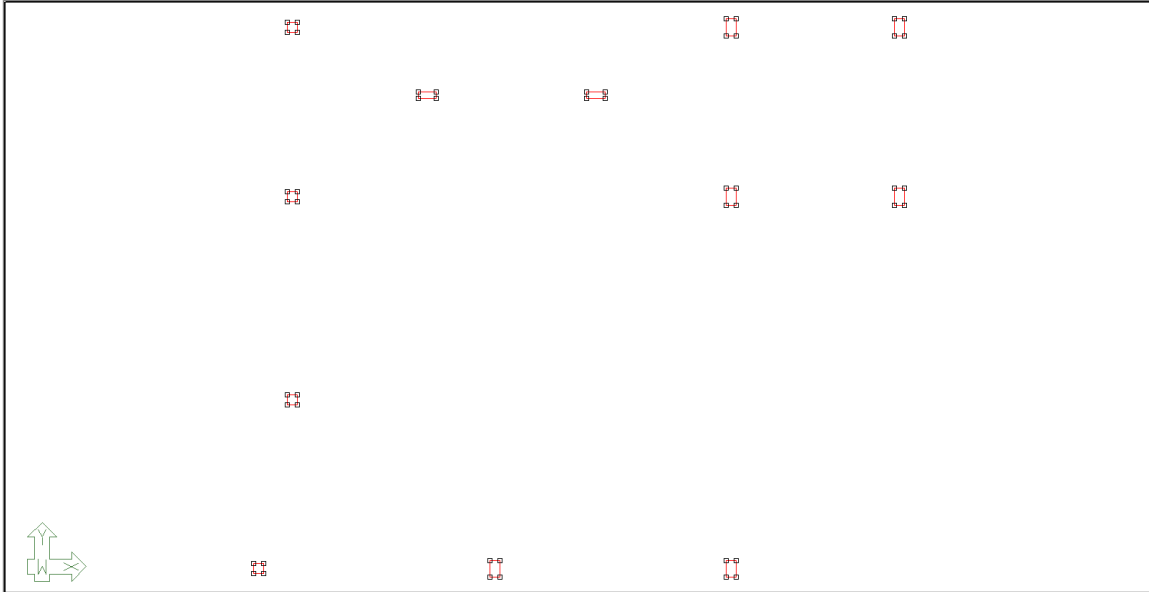

FIGURE 5-13
- Left click and hold the left click of your mouse in the upper left white space and drag your mouse to the lower right so that the selection icon encompasses all the column CAD entities. Release the left button of the mouse to select all the column CAD entities, all columns should now be selected as shown in **FIGURE 5-13**.